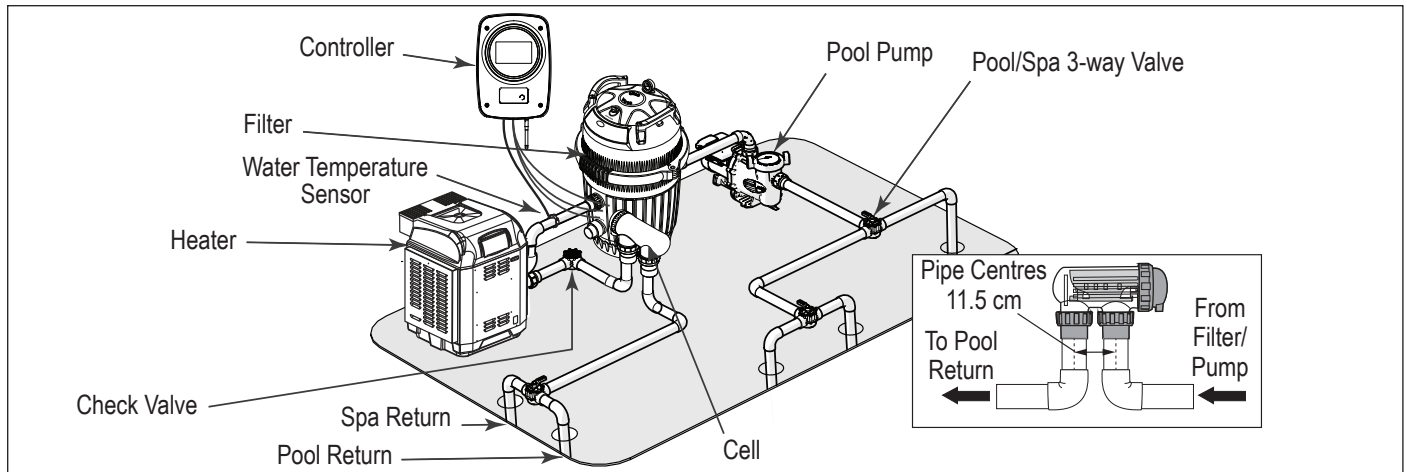

Figure 3. Typical Installation Diagram
The cell must be plumbed in a position that is accessible for maintenance and within 1.5 m of the controller. The cell should be the last piece of equipment in the circulation system. The cell must be installed horizontally, level and with correct flow orientation. See *Figure 3*.
2. Plumb the cell inlet and outlet on vertical lengths of PVC pipe. The cell inlet and outlet ports are 11.5 cm apart, see *Figure 3* inset. The inlet of the cell is on the side closest to the electrical lead, see *Figure 3*.
3. Put the lock nuts onto the inlet and outlet pipes in the correct orientation. See *Figure 3*.
- The cell must be the last piece of equipment on the return line, See *Figure 3*.
- Ensure that the sensor is installed after the filter pump and before any heating device (if there is one installed). See *Figure 3*.